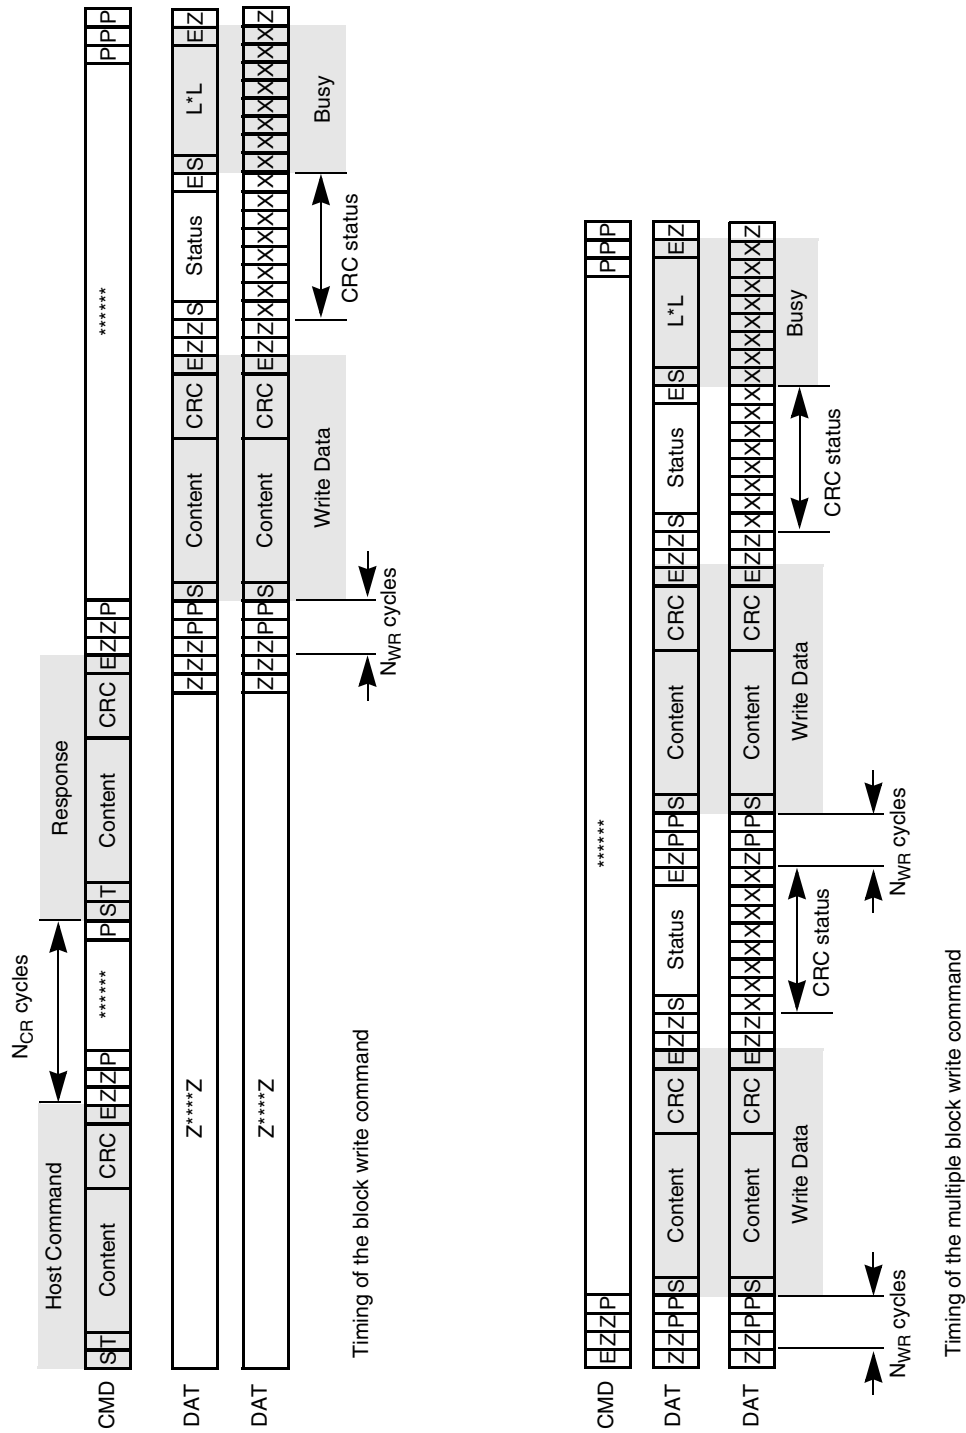

Figure 51. Timing Diagrams at Data Write
Figure 51 on page 65 shows the basic write operation timing. As with the read operation, after the card response, the data transfer starts after N_{WR} cycles. The data is suffixed with CRC check bits to allow the card to check for transmission errors. The card sends back the CRC check result as a CC status token on the data line. If there was a transmission error, the card sends a negative CRC status (101); otherwise, a positive CRC status (010) is returned. The card expects a continuous flow of data blocks if it is configured to multiple block mode, with the flow terminated by a stop transmission command.